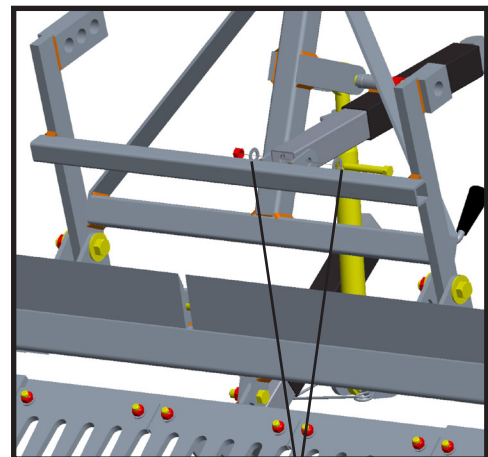

Fig 7.
9. Re-align the Actuator rod mounting hole with the holes in the Wheel Axle assembly brackets and re-insert the bolt, washers, spacers (if supplied) and nut that mounts the actuator to the wheel axle assembly using (2) 3/4" wrenches (or socket set). Tighten until locknut, washers and bolt head are firmly snug against the wheel axle assembly brackets without bending the brackets (Fig 7).